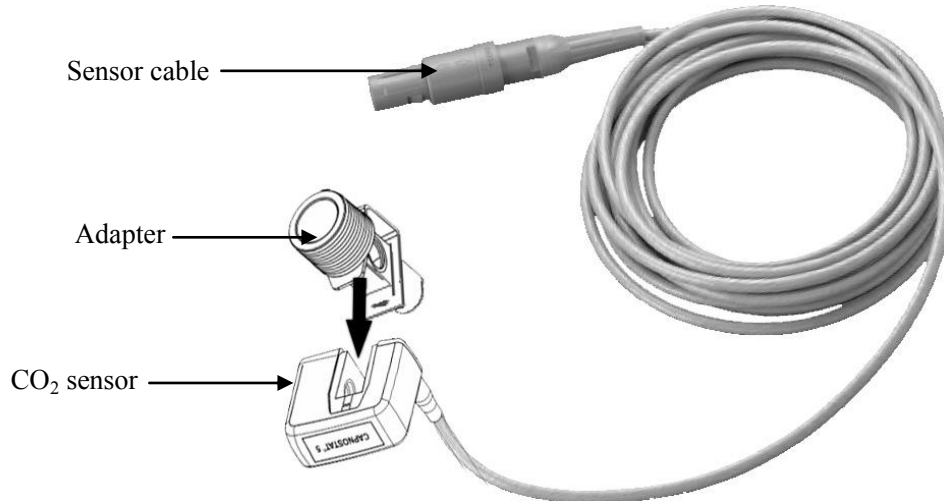

Figure 3.10 Demonstration for Mainstream CO₂ Sensor Connection
2. Snap the CO₂ sensor onto the airway adapter as shown in Figure 3.10. A “click” will be heard when the airway adapter is properly inserted.